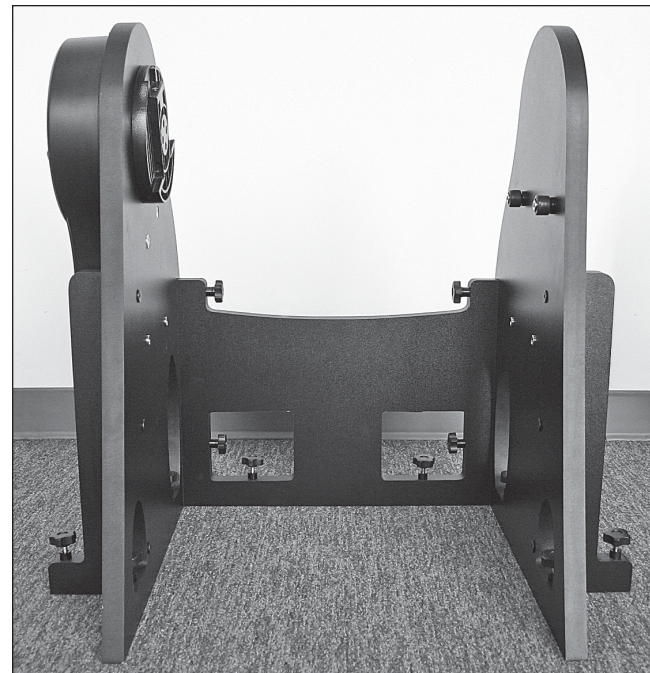

Figure 10. The completed side panel and front panel assembly.
- Now attach the front brace to the two side panels with the four appropriate captive connecting bolts. Use the hand knob to screw each bolt into the threaded metal receptacle recessed in the side panel. The side panels should be oriented so the side braces are facing outward. The front panel should be oriented so that the two pilot holes for the eyepiece rack face outward. Do not completely tighten the connecting bolts yet. The completed assembly should look like Figure 10.